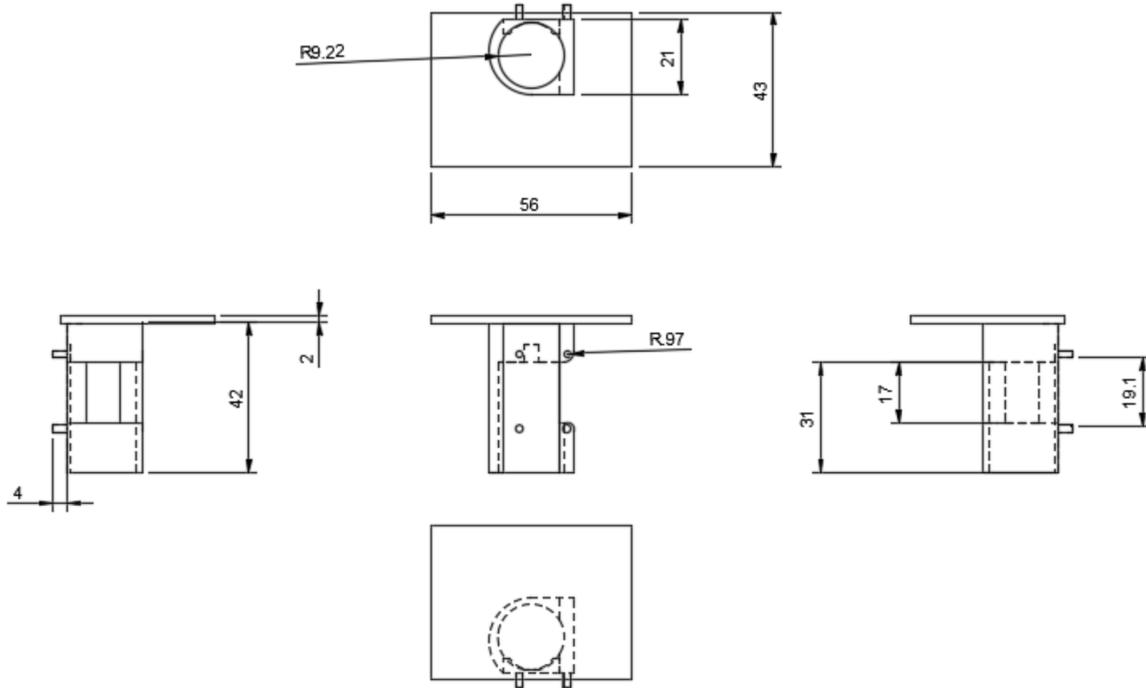

Figure 6: Mechanical Drawing of the Sensor Housing done in Fusion360. All measurements done in millimeters.
- The housing for the Laser Rangefinder, the Photodiode, and the ADC chip was 3D printed with this STL File on an Airwolf EVO with 0.5mm ABS Plastic Filament. Figure 6 shows a mechanical drawing of the sensor for future modeling.